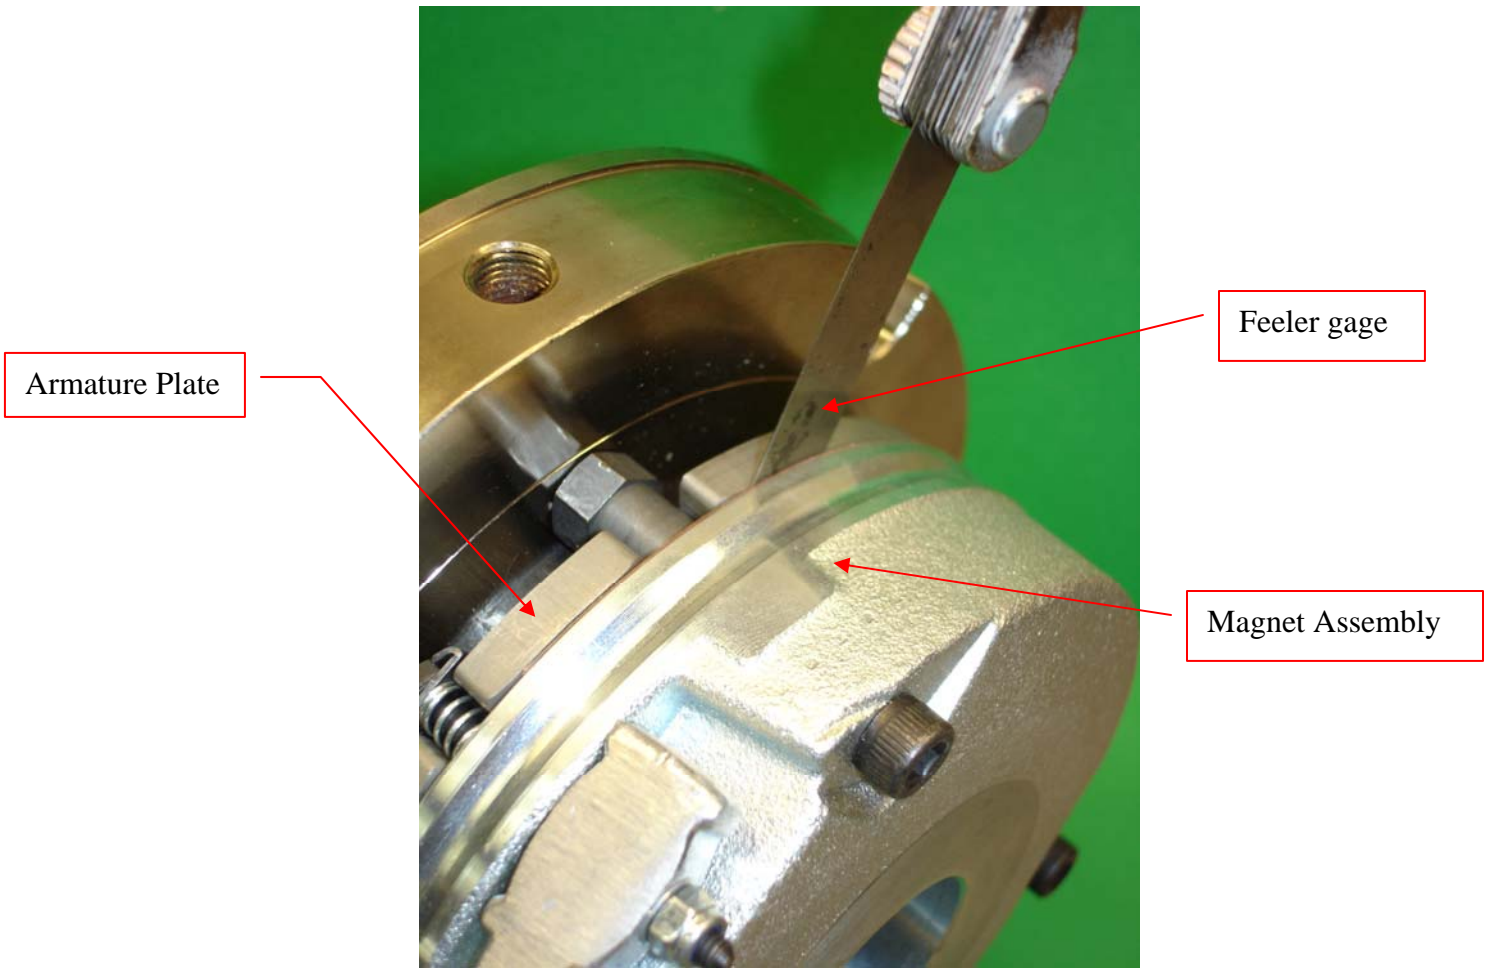

Figure 4: Checking the motor brake air gap with a feeler gage
- Measure the chain slack as seen in Figure 4. This should be no greater than $\frac{5}{8}$ "